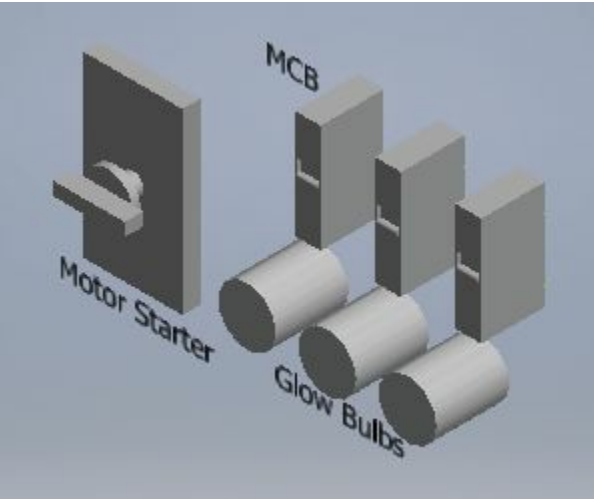

Figure-35. Model used for harness
- Open the assembly file of the model that you want to use for harness; refer to Figure-35. Note that pins are must on components for creating wiring. Without pins, you cannot create wiring.